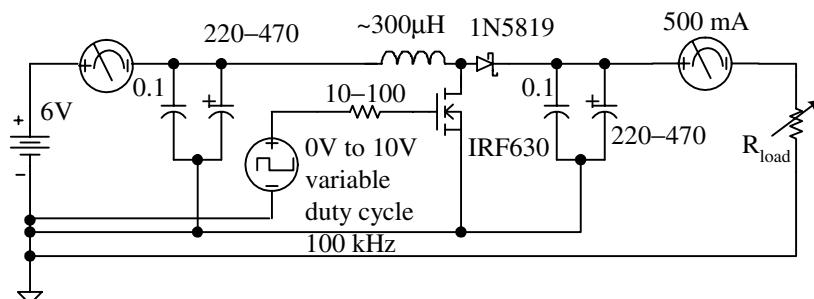

Figure 7-21 Boost regulator
1. Build the circuit shown in Figure 7-21.